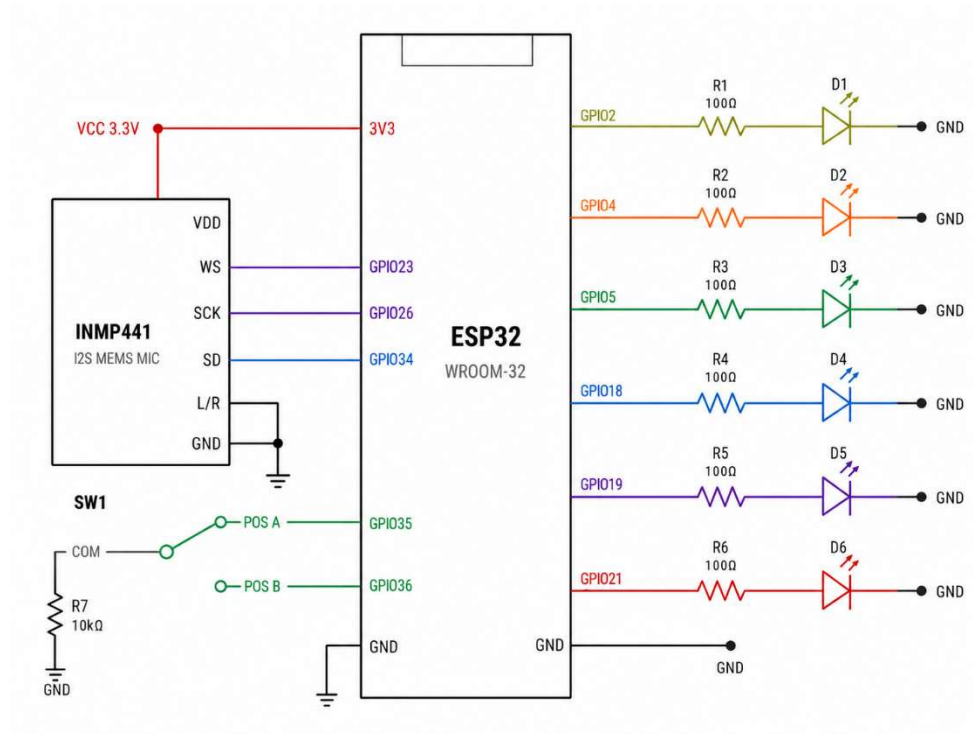

Figure 8. Circuit Switch on and off connection.
4. Connect the switch to the ESP32. Connect POS A and POS B of the switch to GPIO35 and GPIO35 respectively on the ESP32. Connect the switch COM terminal to one side of the 10 kΩ resistor R7, then connect the other side of R7 to GND. (As shown in Figure 8)